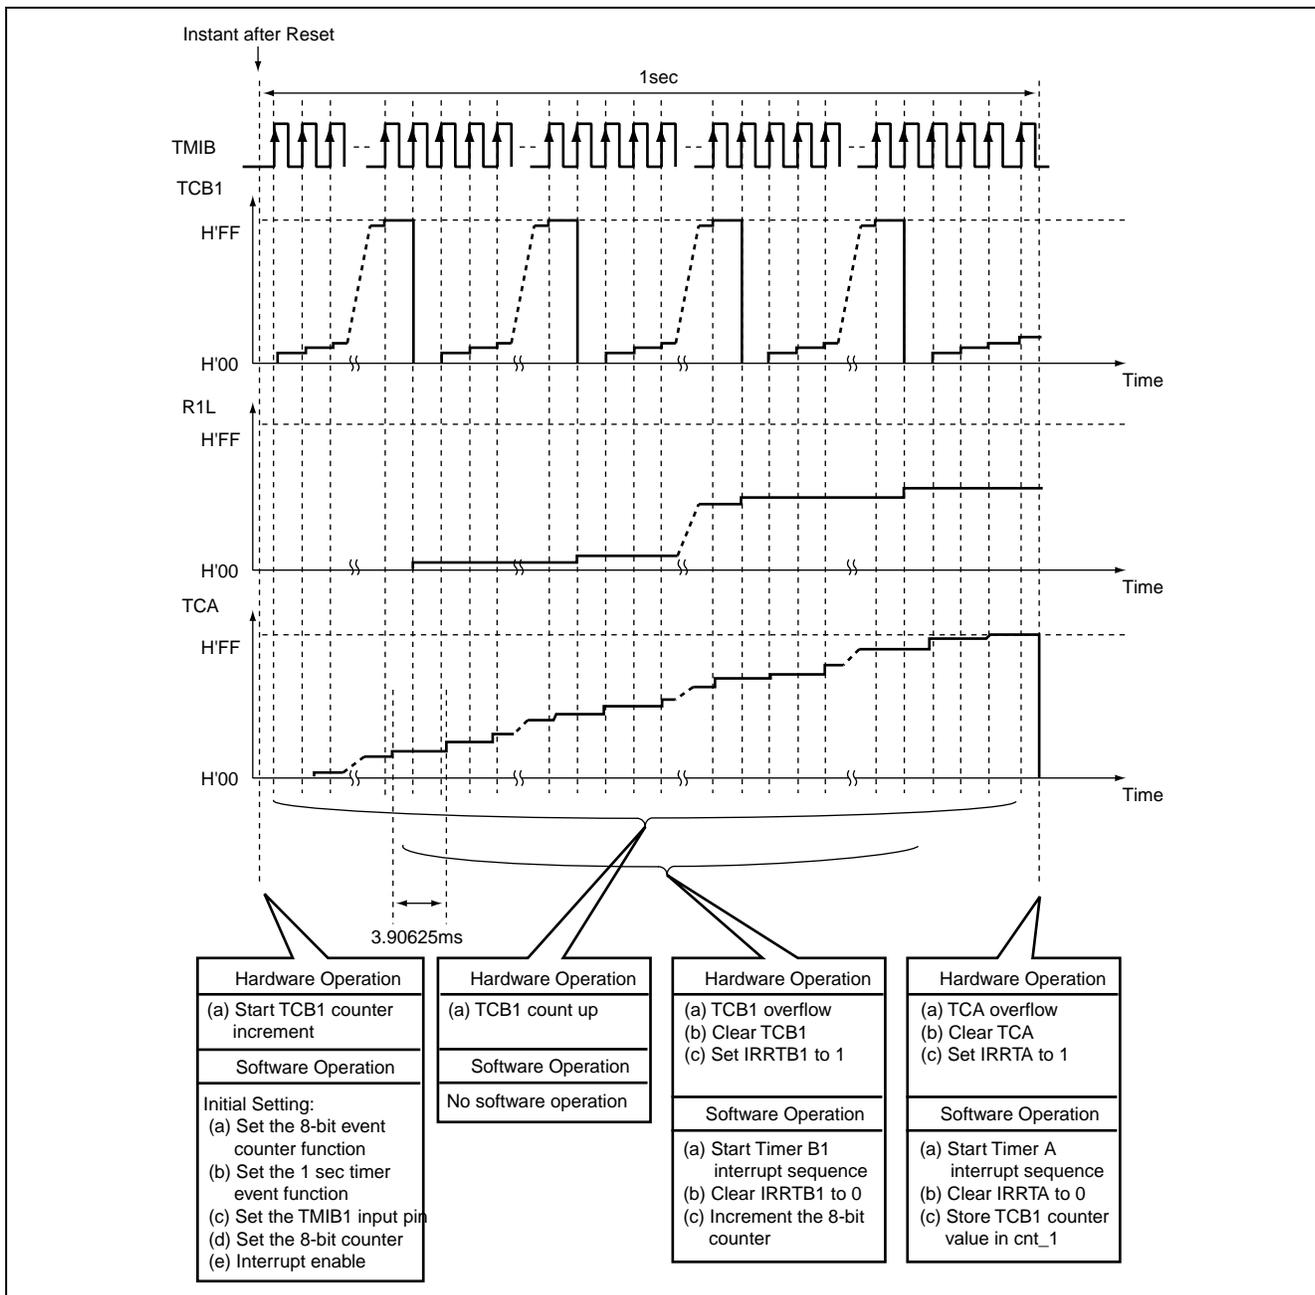

Figure 3.1 Operating Principle of Frequency Measurement by Timer B1 Event Counter Function
1. Figure 3.1 illustrates the principle of operation described by way of waveform diagrams. As shown in figure 3.1, pulse stream frequency measurements by means of the Timer B1 event counter function are facilitated by both hardware and software operations.